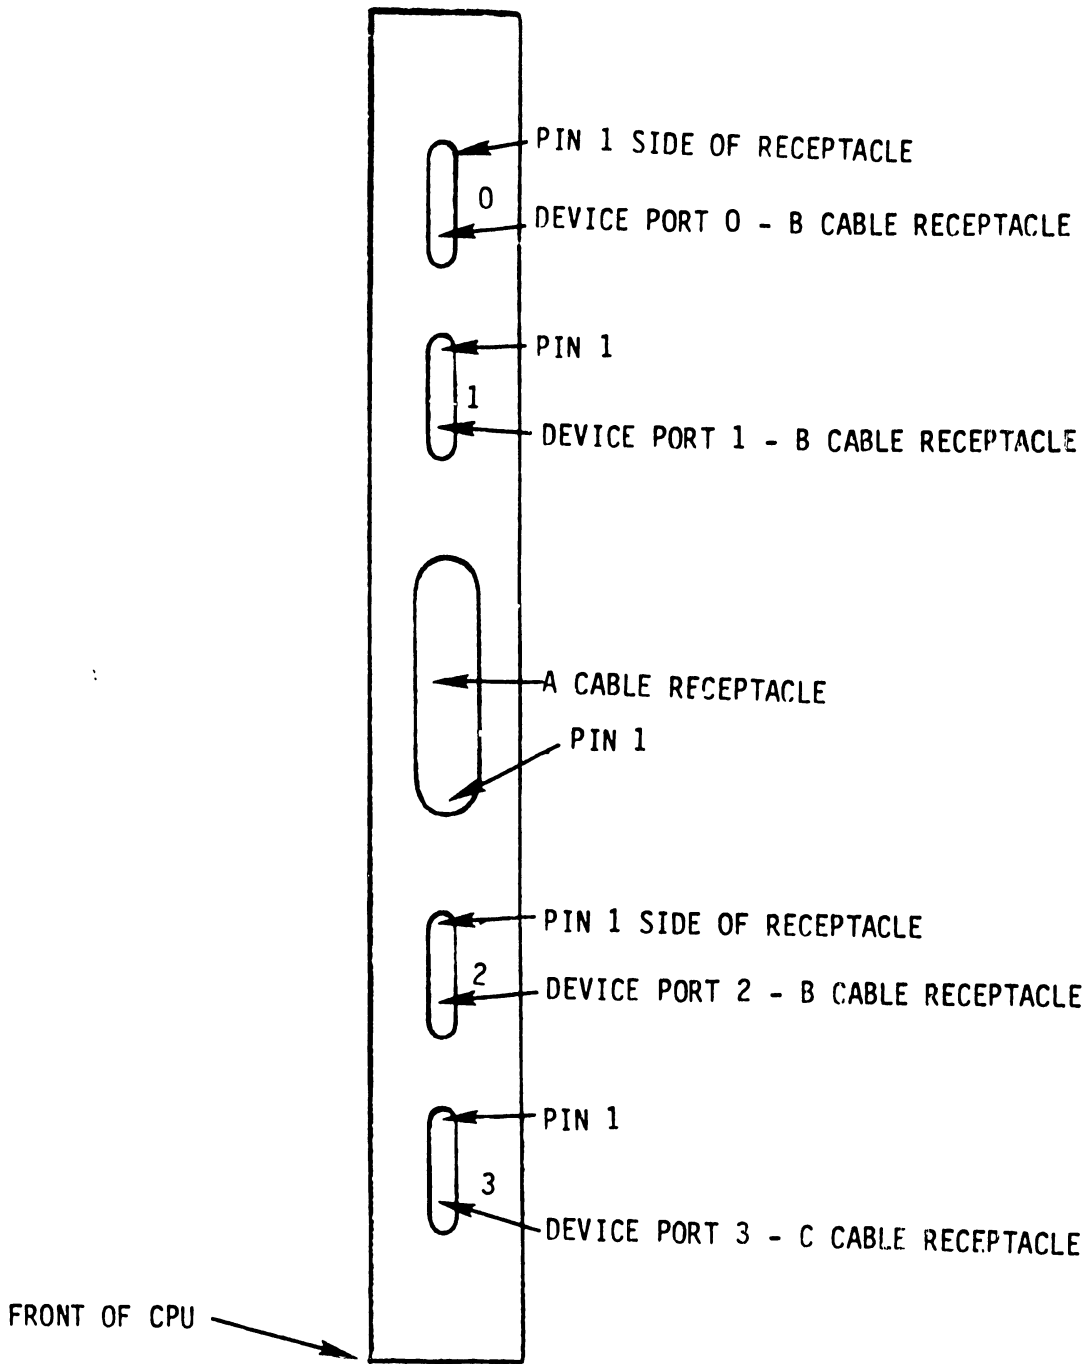

FIGURE 4-29 TOP VIEW OF 22V03/V04 IOP
Since the "A" cable is not keyed, caution must be exercised to ensure its proper installation. Make certain that pin 1 on disk side of the cable matches pin 1 on the 22V03/04 card. Use wire colors to accomplish this. For example, twisted pair brown/black is attached to the pin 1 side of the disk drive I/O connector. Attach the same color twisted pair (brown/black) to the pin 1 side of the 22V03/04 card. See Figure 4-29.
7. Attach the other end of the "B" cable to the port "0" receptacle on the 22V03/04 card in the mainframe, making certain that the "B" cable shield ground strand is on the pin 1 side of the receptacle (Figure 4-29).